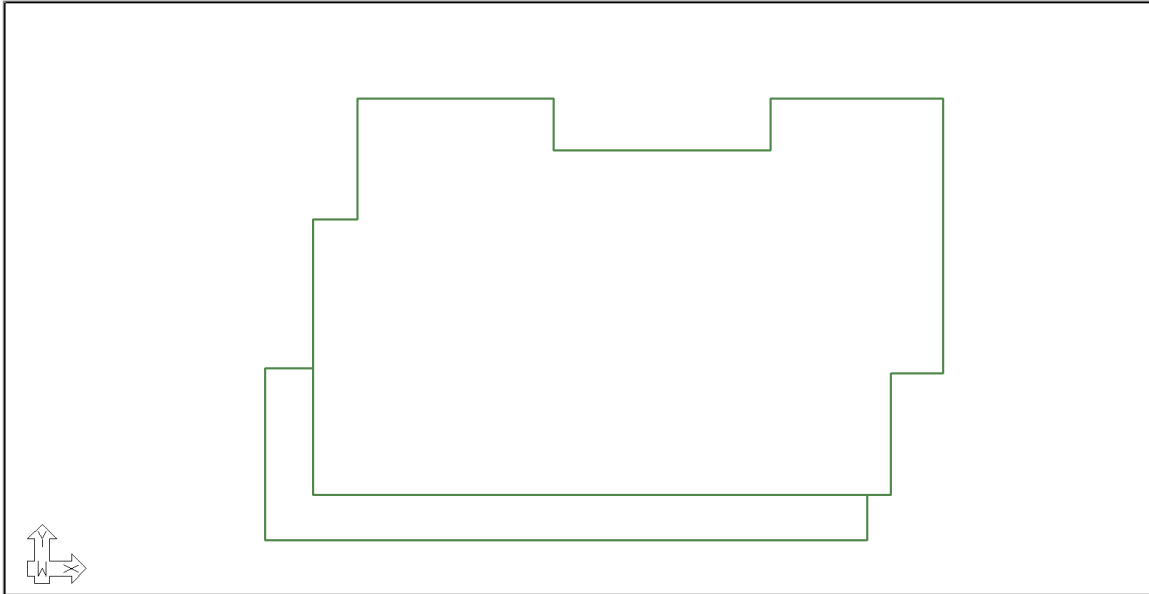

FIGURE 3-11
- Go to *Model* → *Transform* and click on the **Transform Slab** icon. This will automatically create the slab region ADAPT-Builder object based on the outline of the polylines from the CAD file as shown in **FIGURE 3-11**.